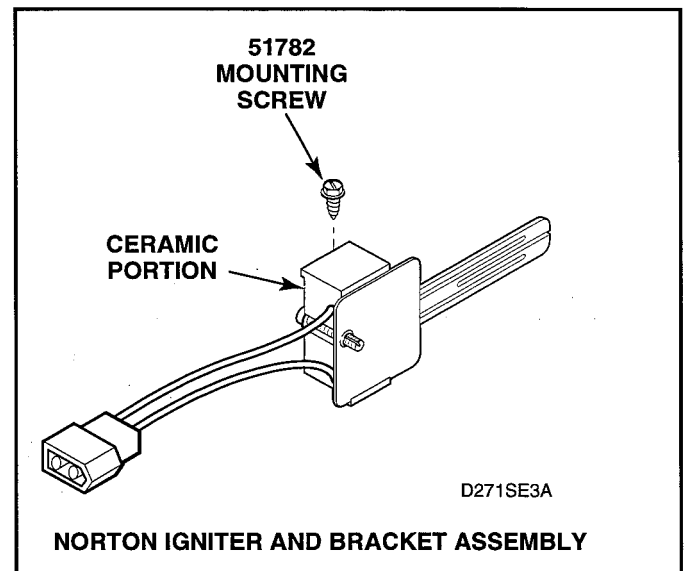

Figure 7-6
- Norton Igniter** – meter should read between 45 – 200 Ohms. See figure 7-6.